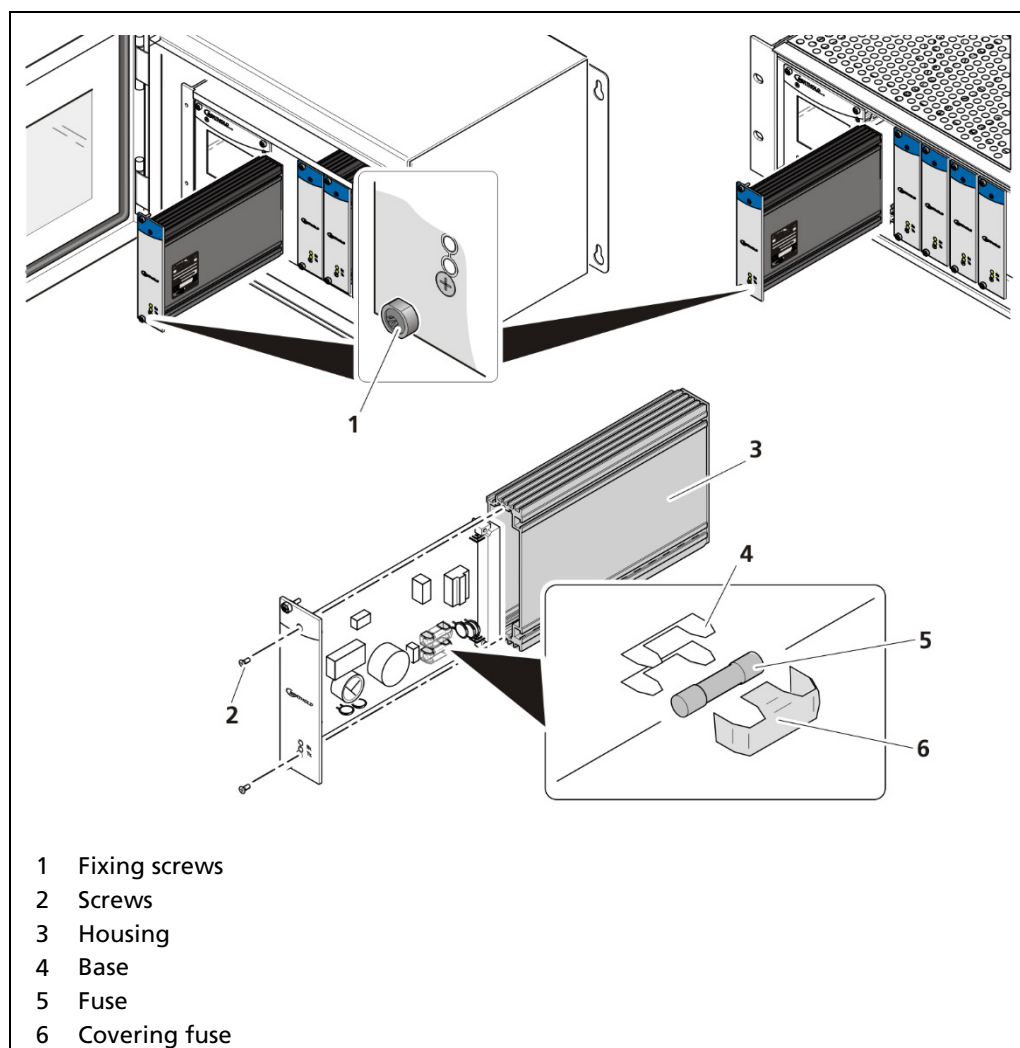

Fig. 146 Exchange fuses slave EVU
2. Loosen the four fixing screws (Fig. 146, item 1) and remove the slave module from the wall housing or subrack.
3. Loosen the two sunken screws on the front side of the slave module (Fig. 146, item 2).
4. Pull out the housing (Fig. 146, item 3) carefully.
5. Remove the protective covering of the fuse (Fig. 146, item 6)
6. Remove the fuse (Fig. 146, item 5).
11. Tighten all fixing screws (Fig. 146, item 1).
6. Remove all lines from the terminal board (Fig. 146, item 4).